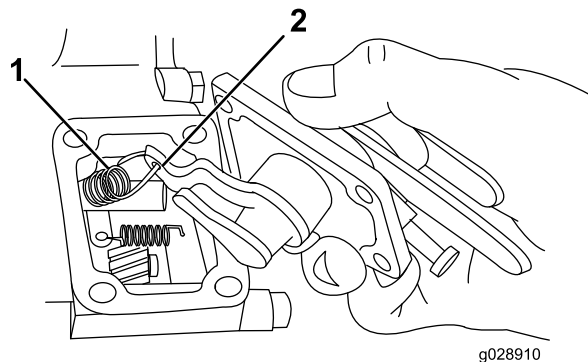

Figure 10
- Pull out the speed-control plate enough to disconnect the governor spring from the governor lever (Figure 10).
1. Hook the governor spring to the governor lever of the replacement speed-control plate (see Figure 10).